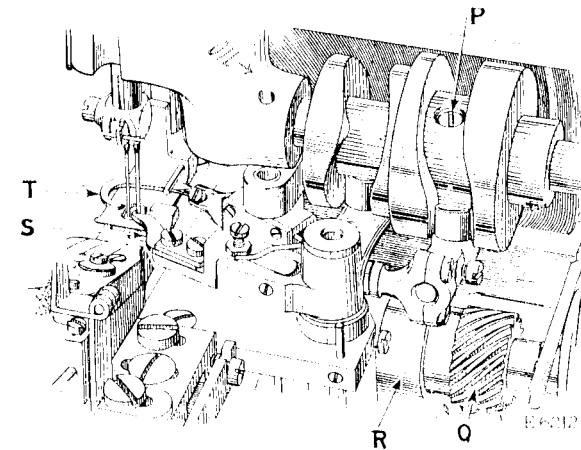

FIG. 8. ADJUSTMENTS ON THE MACHINE
The thread carrying finger (T, Fig. 8) should be timed by means of the cam (P, Fig. 8) at the right so that it carries the
silk thread from the outside needle and places it in the retainer or pull finger (S, Fig. 8) which places the silk thread across the inside needle.
Raise the presser foot to its highest point by means of the presser bar lifter. See that the thread carrying finger (T) lies flat on the presser foot, then loosen the screw (P, Fig. 8) in the cam and move the thread carrying finger (T) to the proper position, after which securely tighten the screw (P). The hook of the thread carrying finger must pass under needles without touching them when the balance wheel is turned either forward or backward.
The needle avoiding motion of the looper should be timed so that the looper is rocked across from one side of the needles to the other when it is all the way in. To change the time of the needle avoiding motion of the looper, loosen the two set screws in the eccentric (R, Fig. 8) and turn the eccentric on the shaft until the correct timing is obtained. The needle avoiding motion of the looper is correctly timed if the needles do not strike the looper when the balance wheel is turned in either direction.
When the needle bar has risen $\frac{1}{8}$ inch above its lowest point, the point of the looper should be at the centre of the left or outside needle. To time the looper motion, in or out, loosen the two screws in the spiral gear (Q, Fig. 8) and turn this gear until the point of the looper is in the correct position as instructed above, then securely tighten the two screws in the gear (Q).